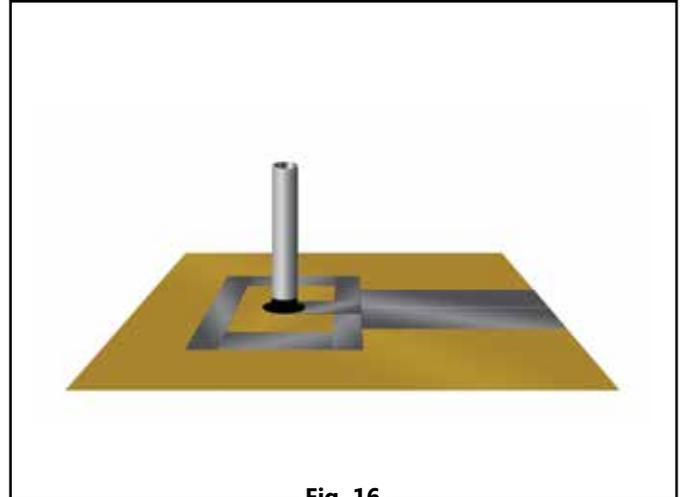

Fig. 16
- 1.8. When installing VaporBlock® Plus™ around pipe penetrations, vertical columns, electrical ducts and other obstructions, you will find it necessary to cut it to the nearest outside edge. This cut can be easily sealed with 12" wide VaporSeal™ tape, by simply centering it over the cut, 6" on either side. Once the tape is placed correctly, apply pressure to assure a complete seal (Fig. 16).